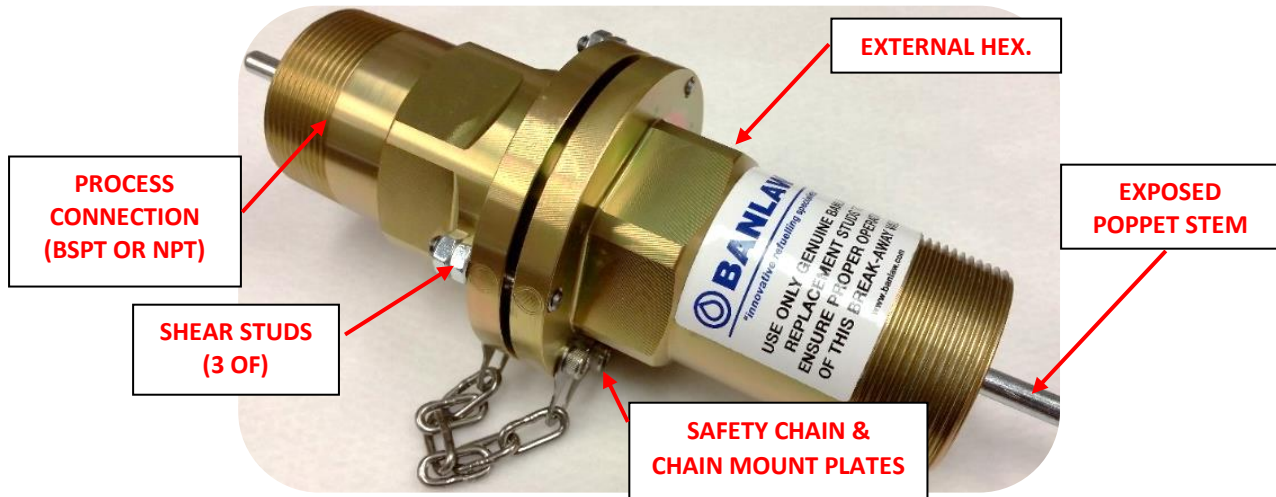

Figure 3 - Key External Features of a Banlaw BAV
- External (male) hex on each BAV body – refer Figure 3 – to assist in the installation and servicing of the BAV.
The key external features of the current Banlaw BAV are shown in Figure 3.